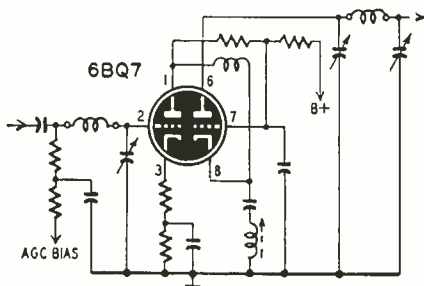

Fig. 1—The cascode r.f. amplifier.
1. Choose a receiver that uses a low-noise-level tuner. Modified cascode triode types using the new 6BK7 or 6BQ7 dual triodes have excellent signal-to-noise ratios. Fig. 1 is a diagram of a commercial circuit using these tubes.